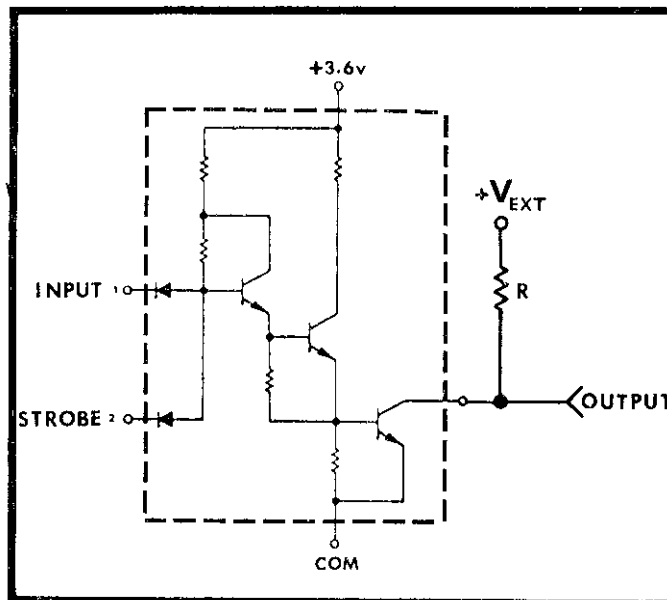

FIGURE 5. Model 1602 Output Buffer Stage.
3. The Buffer Stages utilize "Open Collector" output transistors. Therefore, the user must supply a pull-up resistor R and external voltage V_{EXT} for each buffered output as shown in Figure 5.